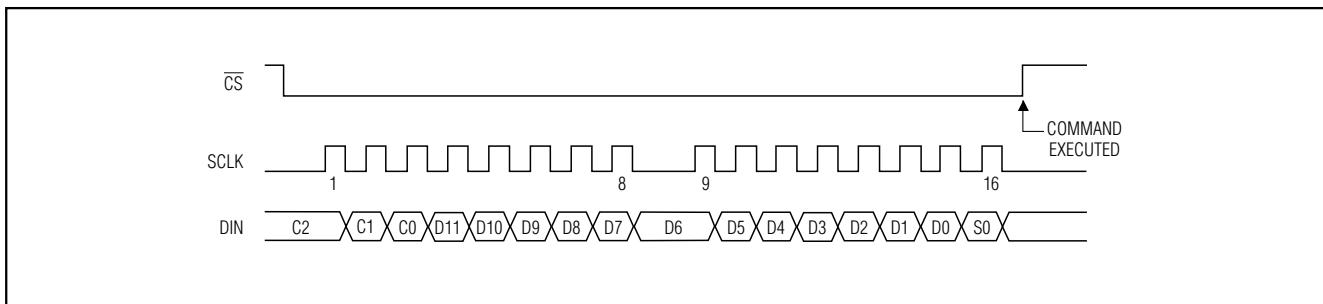

Figure 5. Serial-Interface Timing Diagram
Figures 5 and 6 show the serial-interface timing requirements. The chip-select (CS) pin must be low to enable the DAC's serial interface. When \overline{CS} is high, the interface control circuitry is disabled. \overline{CS} must go low at least t_{CS} before the rising serial-clock (SCLK) edge to properly clock in the first bit. When \overline{CS} is low, data is clocked into the internal shift register through the serial-data input pin (DIN) on SCLK's rising edge. The maximum guaranteed clock frequency is 10MHz. Data is latched into the MAX5302 input/DAC register on \overline{CS} 's rising edge.